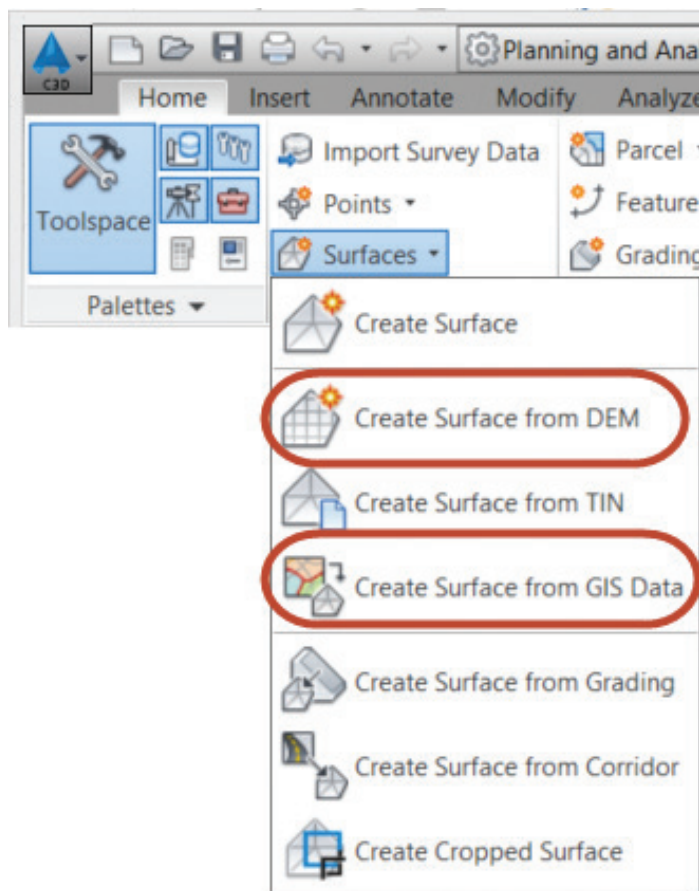

Figure 8: Expanded surfaces menu
1. In the Civil 3D Workspace, Home tab, Create Ground Data panel, expand Surfaces and select either Create Surface from DEM or Create Surface from GIS data, as shown in Figure 8.